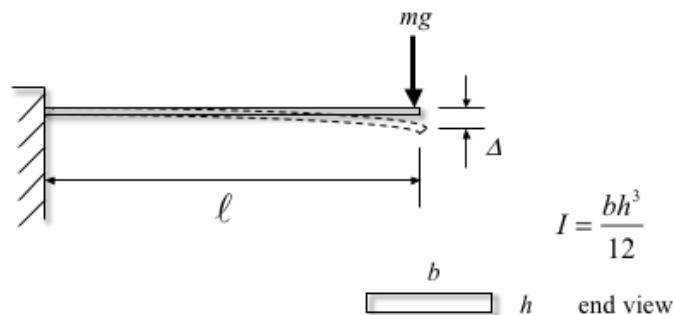

Figure P1.121
- 1.121** Consider the diving board of Figure P1.121. For divers, a certain level of static deflection is desirable, denoted by Δ . Compute a design formula for the dimensions of the board (b , h and ℓ) in terms of the static deflection, the average diver's mass, m , and the modulus of the board.